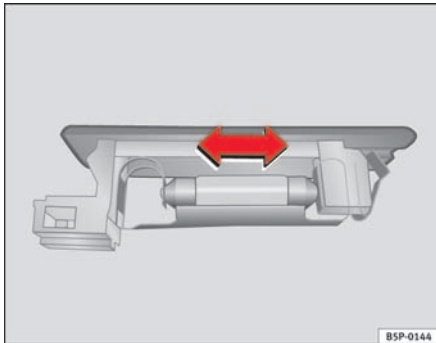

Fig. 167 Luggage compartment light
- Press the lamp sideways and remove it from its housing ⇒ fig. 167.